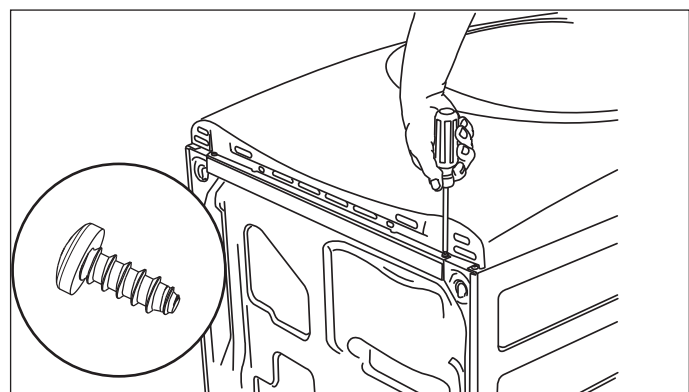

Figure 2-51.
4. Attach front stacking bracket to dryer front with (2) - #10 screws. (See Figure 2-51)